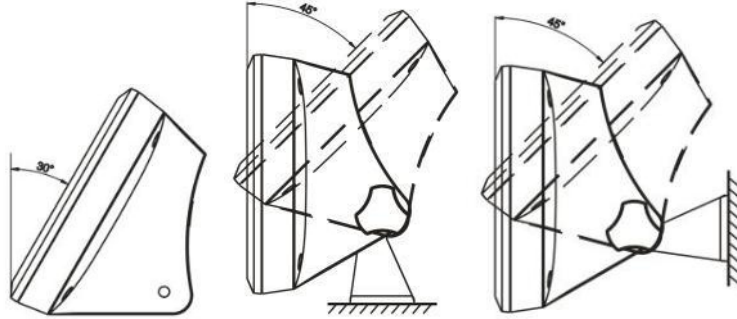

Figure 2-6: Adjusting the Bracket for Mounting on Wall or Column
2. The bracket allows a wide range of adjustment, as shown in Figure 2-6.